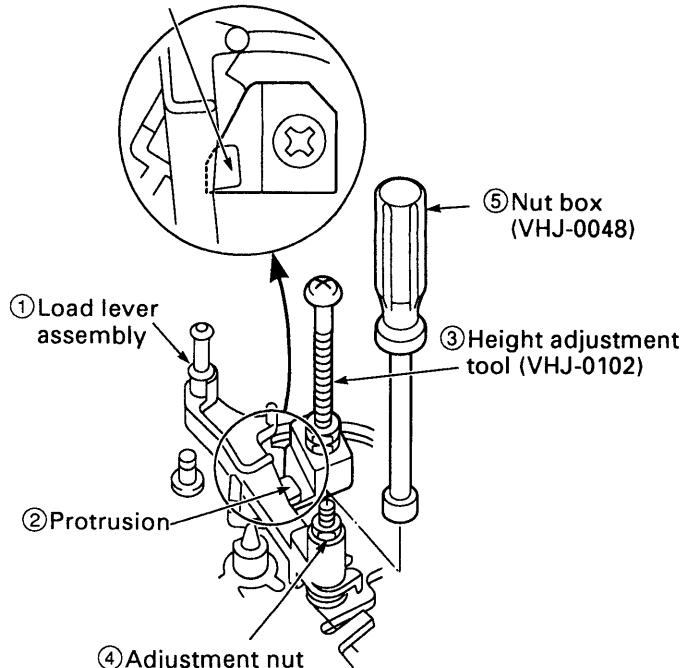

Fig.4-3-2
4-3-2. LOAD LEVER ASSEMBLY HEIGHT ADJUSTMENT (See Fig.4-3-2)
2. Position the height adjustment tool (VHJ-0102)③ under the full surface of the protrusion ② on the load lever assembly ①, as shown in Fig.4-3-2.
3. Using your fingers, gently screw the adjustment nut ④ clockwise into the nut box (VHJ-0048) ⑤ until the protrusion ② of the load lever assembly ① touches the height adjustment tool (VHJ-0102) ③ and the screw starts to feel tight. Next, loosen the adjustment nut ④ by 270° anticlockwise.